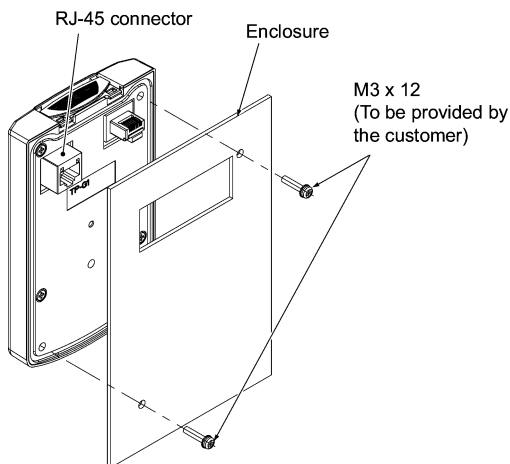

Figure 2.8 Mounting Multi-function Keypad
- ② Mount the Multi-function Keypad onto the enclosure with 2 screws as shown in Figure 2.8. (Recommended tightening torque: 0.7 N·m)